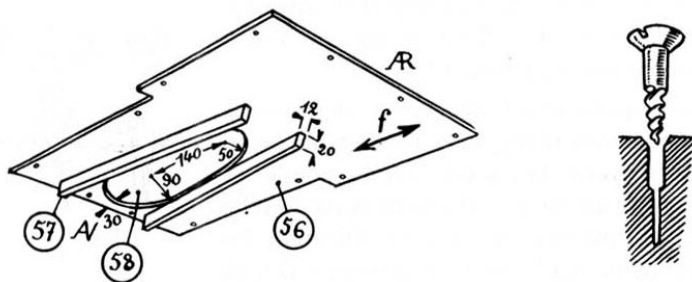

Figure 3.10: Seat bottom from below
The members (46), (20), (35), (48) and (54) are all on the same plane, and support the seat-bottom (56), which is seen from below in fig. 3.10. Determine its form in place with cardboard, so as not to waste plywood unnecessarily. This panel is only secured by  $12 \times 15$ mm round-headed wood screws. It is doubled, to a thickness of 6 mm and glued under weights. Nailing would be useless.